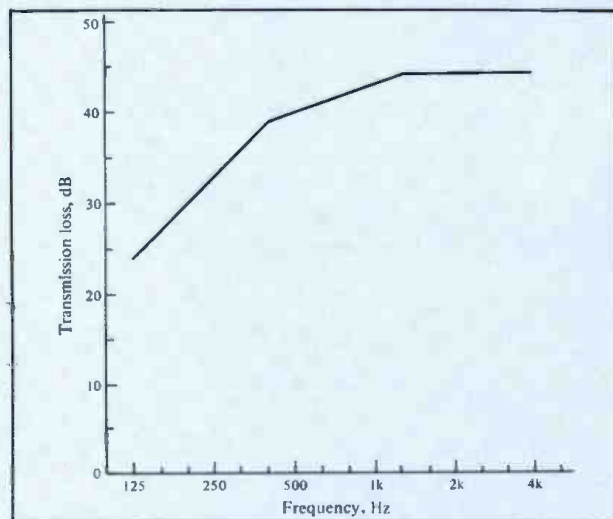

Figure 1. The standard STC contour.
The effectiveness of glass or other materials as sound barriers is measured by the sound transmission loss offered. A graph of transmission loss (TL) vs. frequency describes the effectiveness of such a barrier completely and accurately. It is convenient, however, to be able to represent such a graph by a single number. The arbitrary concept of Sound Transmission Class (STC)1 is designed to do just that. An STC single number rating, while not perfect, is designed to correlate with subjective impressions of common noises penetrating partitions in homes and offices and is commonly applied to audio rooms as well. The standard STC contour, shown in FIGURE 1, reflects the lower sensitivity of the human ear to low frequency sounds. It can be readily plotted to any convenient scale by connecting the three following points by straight lines: 125 Hz/TL of 24 dB, 400 Hz/TL of 39 dB, and 1250 Hz/TL of 44 dB. The measured transmission loss of the barrier is plotted against frequency, and the standard STC contour, plotted as an overlay to the same scale on tracing paper, is adjusted vertically until the following conditions are fulfilled for the 1/3 octave points from 125 Hz to 4 kHz: 1) the sum of the deviations below the contour at 1/3 octave intervals shall not be greater than 32 dB and 2) the maximum deficiency at any single 1/3 octave point shall not exceed 8 dB. When the contour is adjusted to the highest value that meets these requirements, the STC of the barrier is the TL value corresponding to the intersection of the contour and the 500 Hz ordinate.